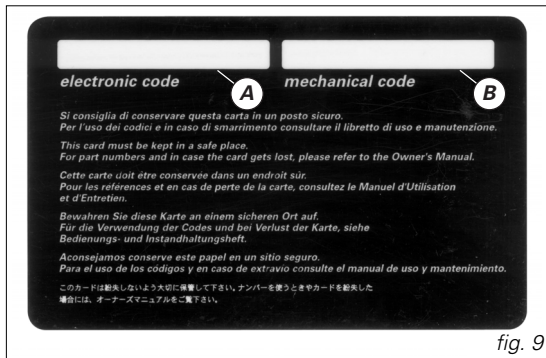

fig. 9
A) (fig. 9) the electronic code to be used to start the engine in the event of an emergency;
B) (fig. 9) the mechanical code for the keys to be reported to the DUCATI Service network when you are ordering any duplicate keys.